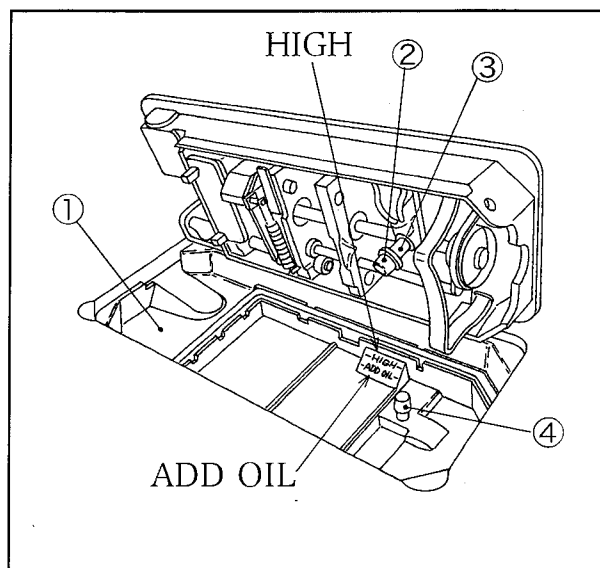

Fig.10
- ◇ Tilt the machine backward and fill the oil to the “HIGH” mark on the oil reservoir shown in Fig.10.